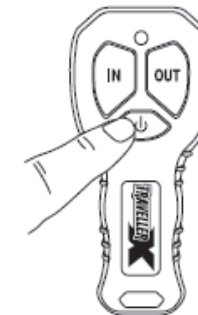

Fig 7
- Operation of wireless remote switch: activate the wireless remote by pressing the power switch button for 3 seconds until the blue LED lights up.(see Fig 7)
- To turn off the wireless remote switch, keep pressing the power button for 3 seconds until the blue LED light turns off (see Fig 7). The wireless remote switch will automatically power off in 2 minutes if it is not used.